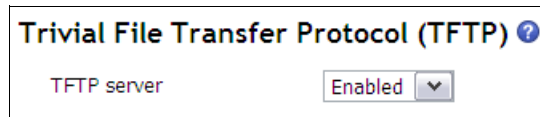

Figure 9-11 How to enable TFTP in the AMM
- ▶ Ensure that TFTP is enabled. Select **MM Control** → **Network Protocols** → **Trivial File Transfer Protocol (TFTP)**, as shown in Figure 9-11.